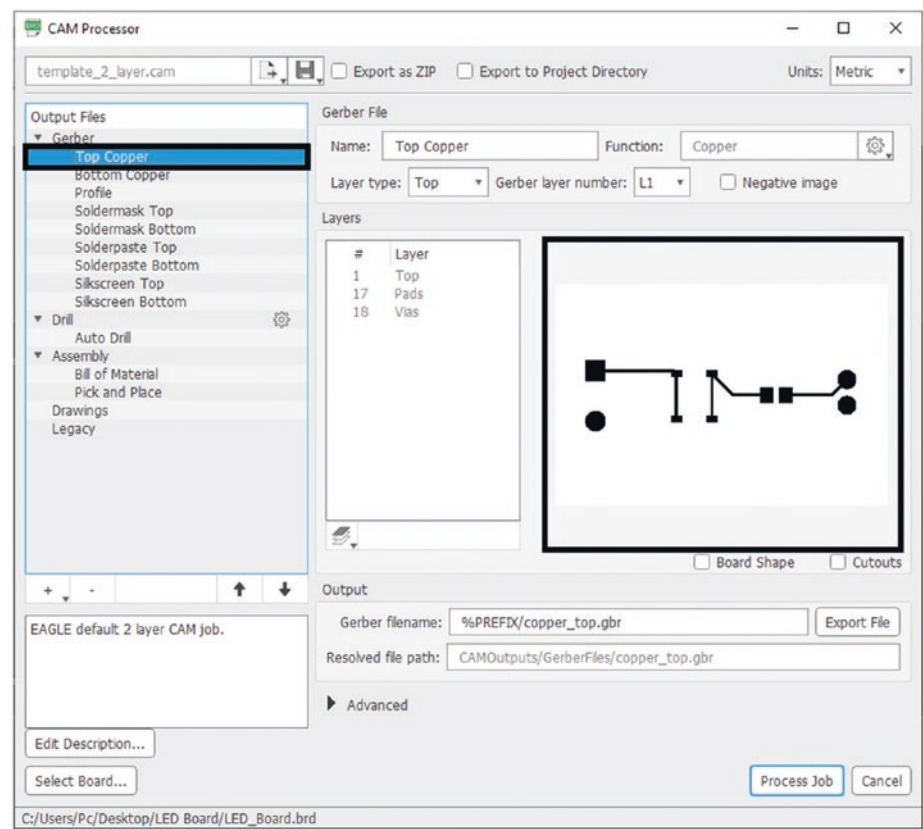

Figure 5-82. Preview of the Top Copper of the PCB
- If you select the “Top Copper” layer, you will see a preview of that layer. Same thing goes for any of the other selections that the CAM Processor shows. See Figure 5-82.